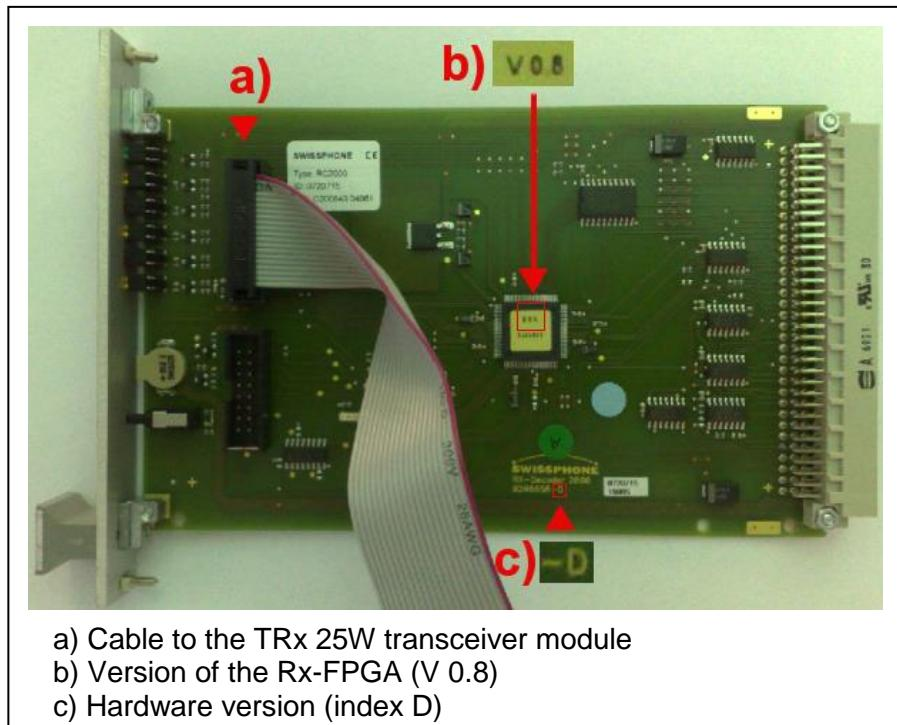

Figure 45: Wiring of the RC or RC09 card
- Correctly connect the connecting cable to the RC09 card (see Figure 45)